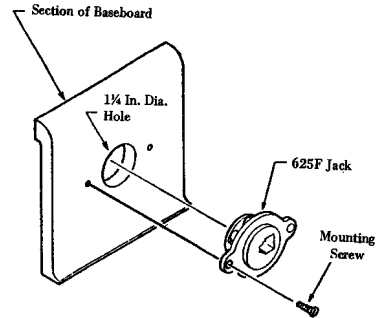

FIGURE 15. Baseboard Mounted 625F Miniature Jack
d. The 625F jack may be flush-mounted on a baseboard or wall panel as follows (Figure 15):
(1) Drill a 1 1/4-inch hole in the baseboard.
(2) Connect the inside wire to the R, G, Y, B terminals of the jack.